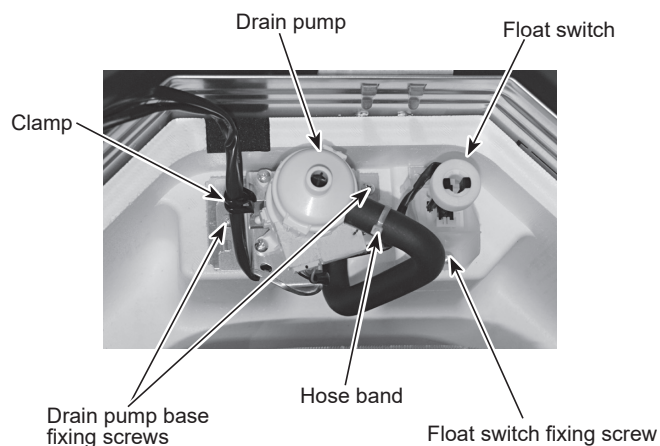

Figure 6
- (7) Remove the drain pump (tapping screw: 3 screws). (See Figure 6)